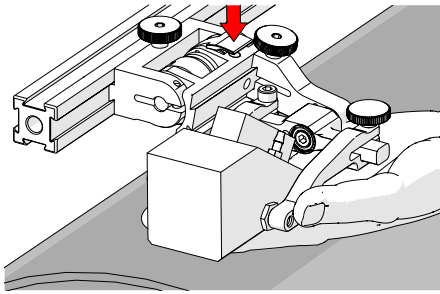

Fig. 176 - Lift and press latch button
3. Lift probe slightly and press latch button (Fig. 176) to apply spring pressure to the wedge.